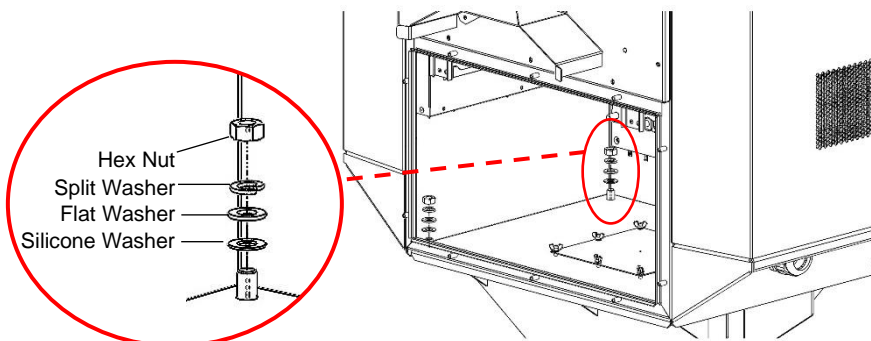

Figure 12 - Securing charger to pedestal with hardware provided
4. In bottom corners of charger, secure charger to pedestal studs using four sets of M12 silicone rubber washer, flat washer, split washer, and hex nut provided as shown in Figure 12; Tighten nuts to 780±10 in-lbs (90±10 N-m) torque.